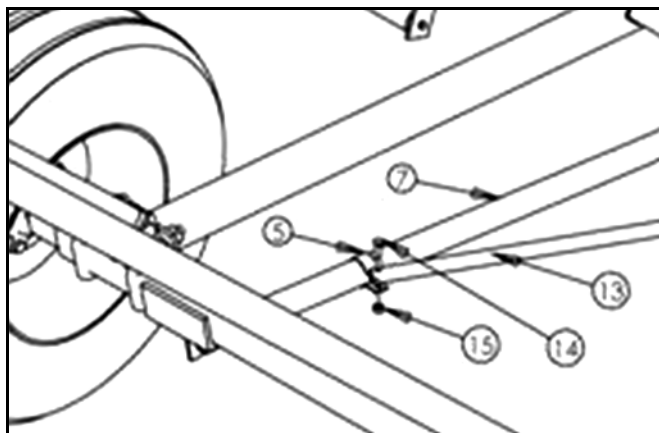

Figure 3.7
3. Attach the opposite end of the crossbrace (13) to the transport tube using clamp bands (5), bolts (14), and locknuts (15). Refer to Figure 3.7.